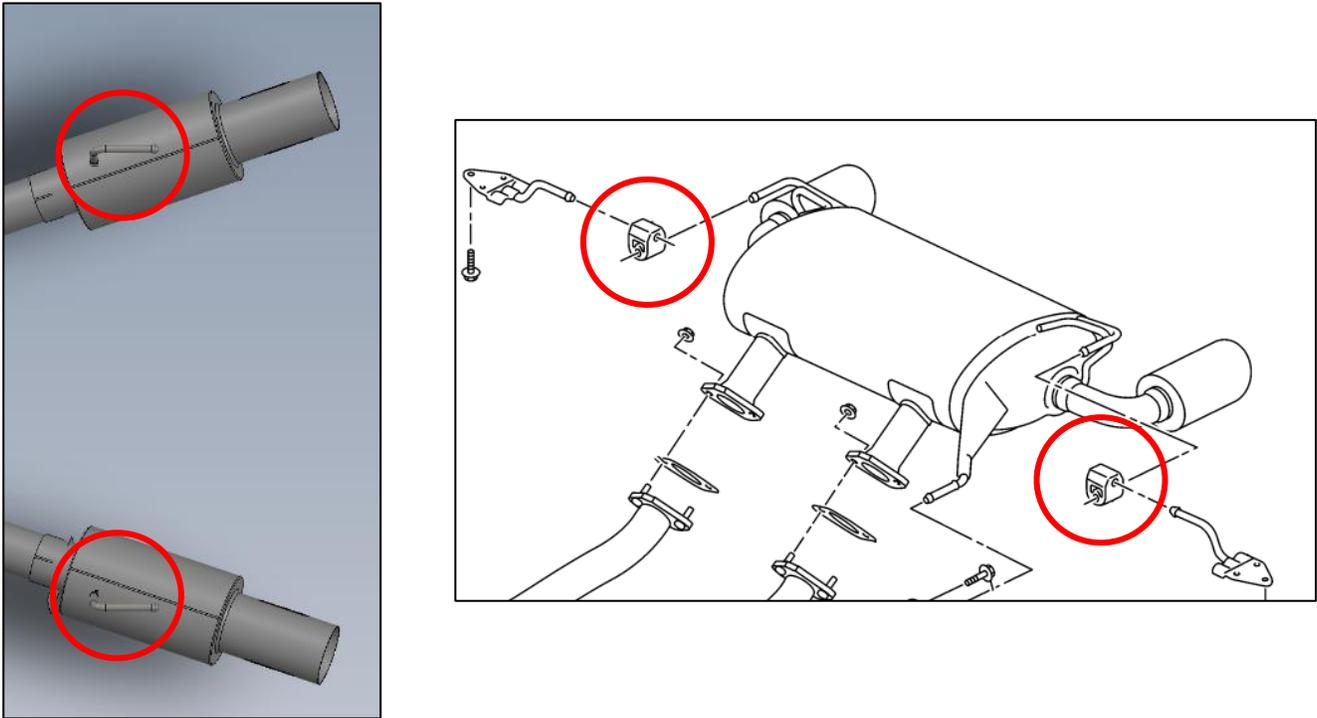

Figure 2
5. Position the Muffler(s) into the OE Exhaust hangers at the rear of the vehicle. *Figure 2.*